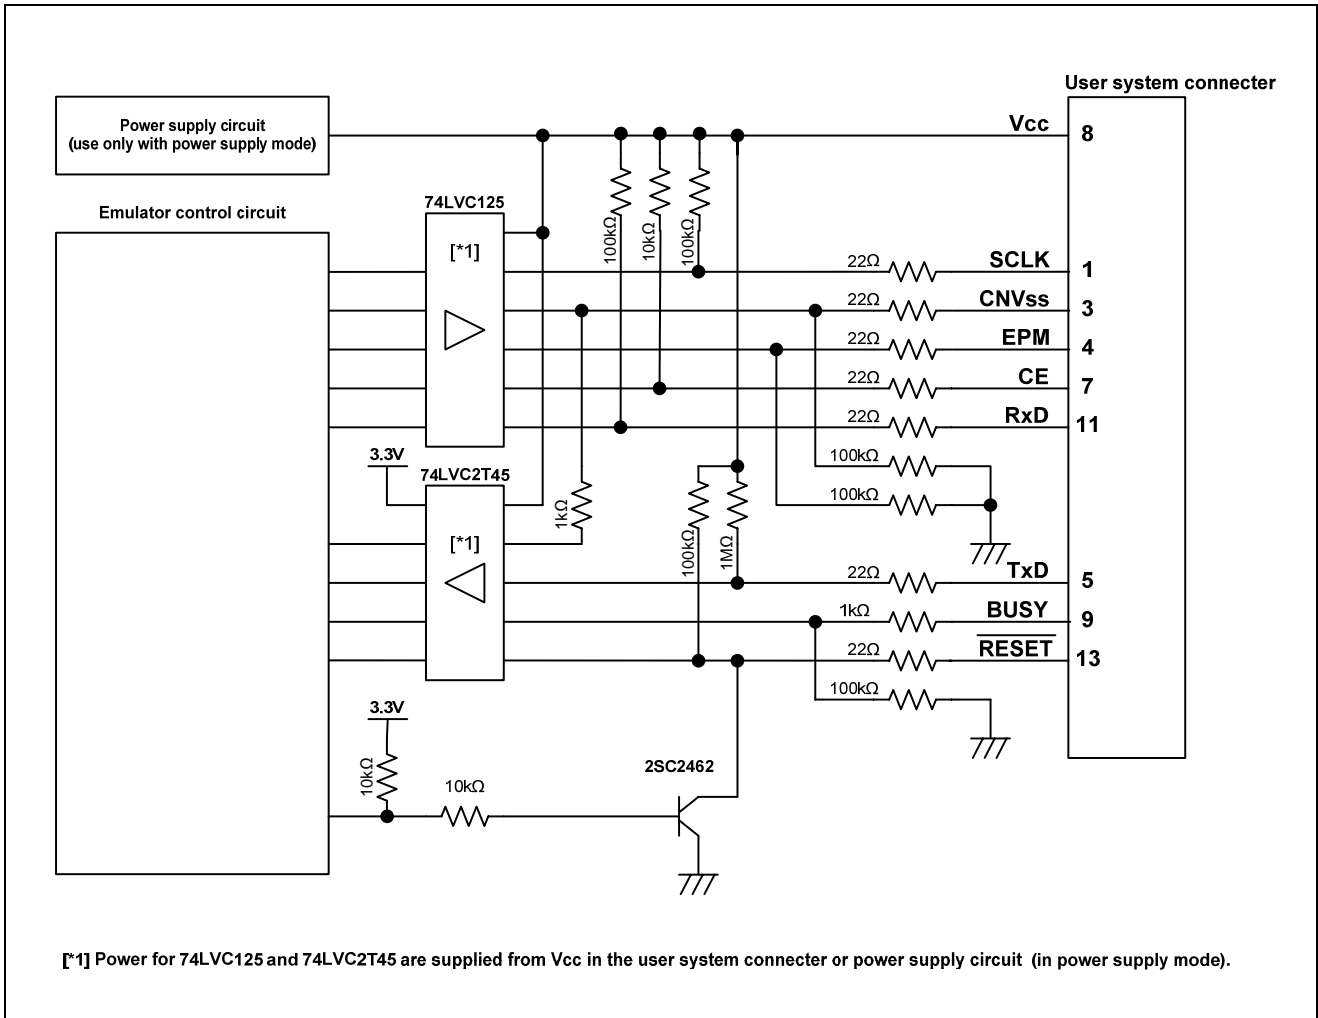

Figure 5.6 Interface Circuit Inside the E8a Emulator (For Reference)
1. Pins P64, P65, P66 and P67 are used exclusively by the E8a emulator. Connect the E8a emulator to the MCU pins. Connect pins P66 and P67 to the E8a emulator after pulling up the MCU pins at the Vcc level. For P64 and P65, pull up the pins at the Vcc level or pull down them according to the MCU pin state after disconnecting the E8a emulator. P64 may be in a Hiz state while the E8a emulator is active. Therefore, set the pin resistance value so the voltage cannot be at the midpoint potential, depending on the voltage dividing of the resistance inside the E8a emulator (Figure 5.6).
2. P15 is used by the E8a emulator for MCU control. Connect the E8a emulator to the MCU pins. Pull up P15 at the Vcc level or pull down it according to the MCU pin state after disconnecting the E8a emulator. P15 may be in a Hiz state while the E8a emulator is active. Therefore, set the pin resistance value so the voltage cannot be at the midpoint potential, depending on the voltage dividing of the resistance inside the E8a emulator (Figure 5.6).
9. Figure 5.6 shows the interface circuit in the E8a emulator. Use this figure as a reference when determining the pull-up resistance value.